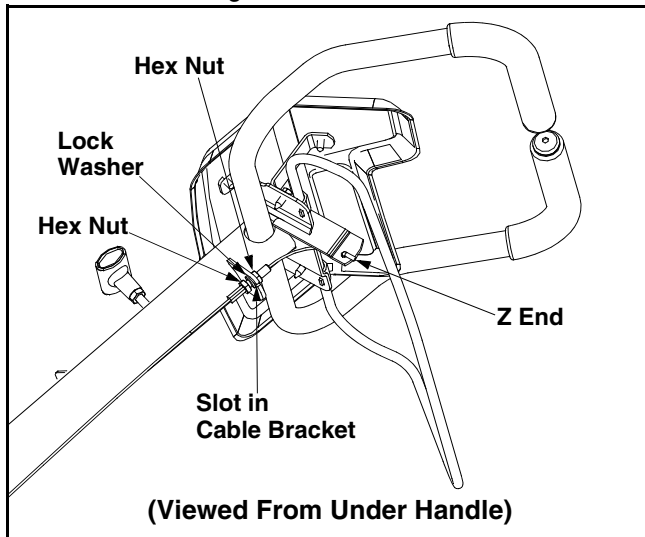

Figure 7
- Pull the cable upwards to obtain slack and hook the Z end of the cable from right to left into the bracket on the clutch control (beneath the handle panel). Tighten the nut against the cable bracket. See Figure 7.
- **If the belt turns with the unit in neutral**, adjust by moving the hex nut below the cable bracket **down** a few turns. Tighten the upper hex nut against the bracket. See Figure 7.